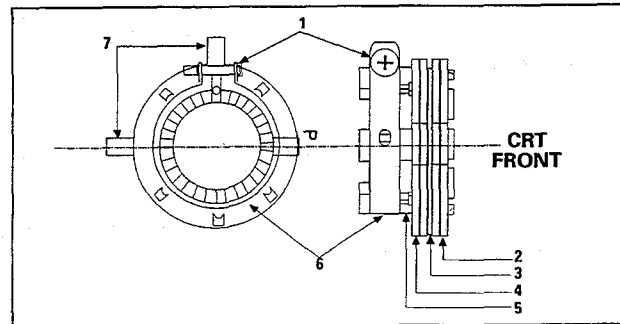

Figure 6-11. Phillips Magnet Configuration
- As shown in Figures 6-11 through 6-12, the three CRTs used in SyncMaster 15GLi monitors use the following magnet configurations: